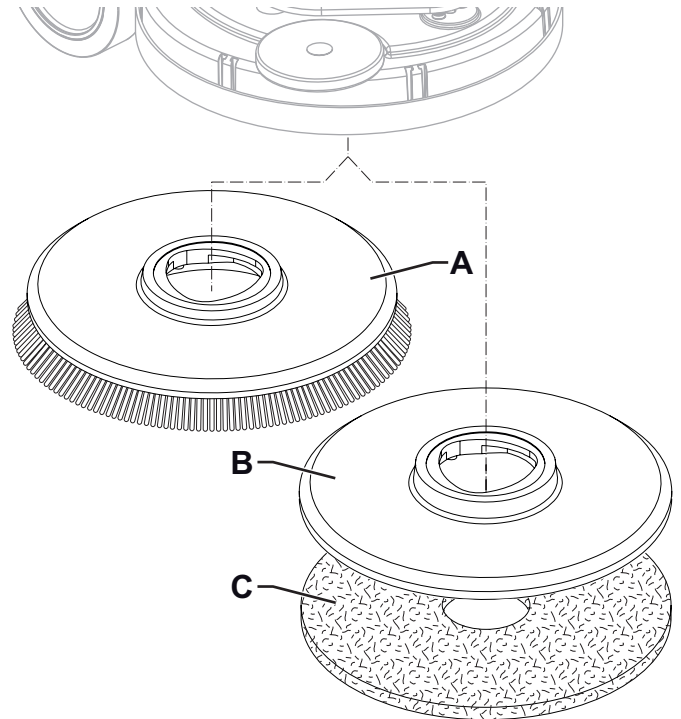

Figure 1
According to the kind of cleaning to be performed, the machine can be equipped either with the brush (A, Fig. 1) or the pad-holder (B) with pad (C) together with the appropriate deck.
1. Place the brush (A) or the pad-holder (B) under the brush deck (23).
3. Turn the switch (41) to "I".
5. Place at least on hand on the presence sensor (46), start the gearmotor until the brush is engaged. If necessary, repeat the procedure until the brush is engaged.